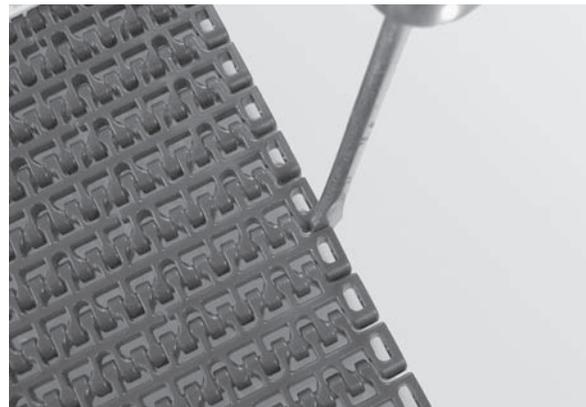

Figure 57
1. Place the edge of a flat head screwdriver between the two belt links and turn clockwise (**Figure 57**).